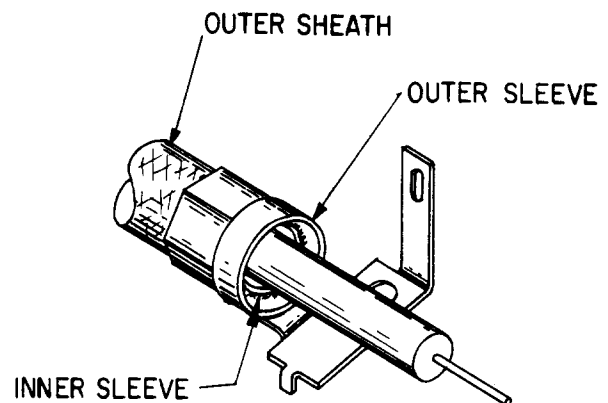

Fig. 5 — Portion of Coaxial Office Cable with Flag of Outer Sleeve Nearest to the Bare Conductor
4.05 Where the ground connection requires the use of flag-type ground sheath connector (see Figs. 5 and 6), use inner and outer sleeves as follows:
4.06 With the flag end of the outer sleeve in the proper position (Fig. 5 or 6), place the outer sleeve on the cable at a point just beyond the exposed wire braid.
(b) If the KS-15712, List 7 or 8, outer sleeve has the flag nearest to the bare conductor, move the inner sleeve backwards under the wire braid so that the back end of the inner sleeve is approximately flush with the butt (see Fig. 5).